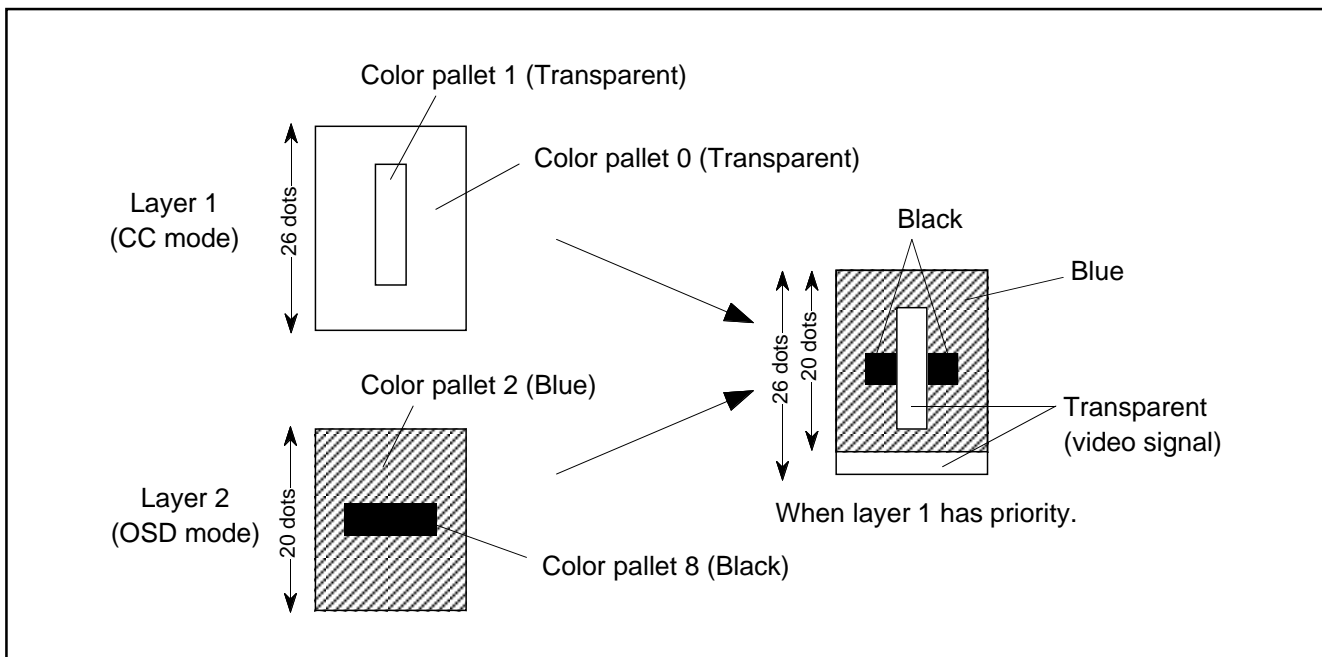

Fig. 8.11.26 Difference Between Color Code 0 (Transparent) and Transparent Setting of Other Color Codes
Only in CDOSD mode, a dot which selects color pallet 0 or 8 is colored to the color pallet set by RC13 to RC16 of OSD RAM in character units (refer to Figure 8.11.26).
**2:** Color pallet 0 (transparent) and the transparent setting of other color pallets will differ. When there are multiple layers overlapping (on top of each other, piled up), and the priority layer is color pallet 0 (transparent), the bottom layer is displayed, but if the priority layer is the transparent setting of any other color pallet, the background is displayed without displaying the bottom layer (refer to Figure 8.11.26).